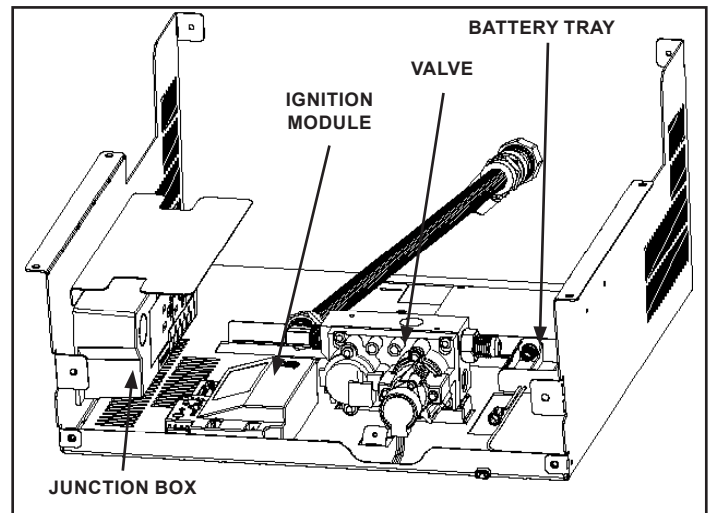

Figure 3.4 Control Cavity
The IntelliFire™ Plus intermittent pilot ignition system comes with a battery backup system that enables the system to operate in a power outage. The system offers seamless transition from household AC power to battery backup. A factory-installed battery pack is located in the control cavity of the appliance. See Figure 3.4. Battery longevity and performance will be affected by long term exposure to the service temperatures of this appliance.
2. Locate the battery tray and insert four AA cell batteries. Battery polarity must be correct or module damage will occur. See Figure 3.4. A complete wiring diagram is included in the Electrical section of the appliance Installation Manual.